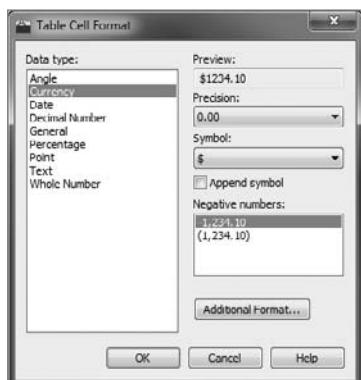

FIGURE 9.68 Formatting the table cells
3. In the Table Cell Format dialog box that opens, choose Currency for Data Type; then choose 0.00 from the Precision drop-down list (see Figure 9.68). If necessary, change the Symbol value to the symbol of your local currency. Click OK to close the dialog box.